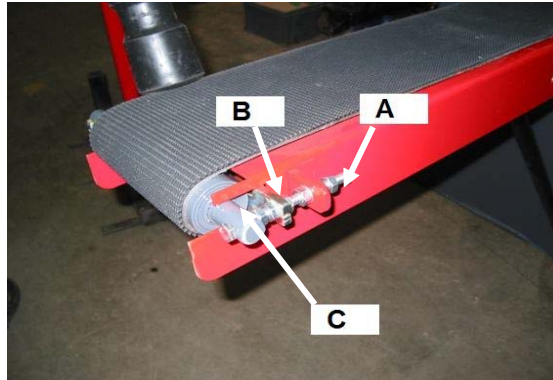

Fig. 18
9.9 Tightening the in-feed conveyor belt, Figs. 18 and 19